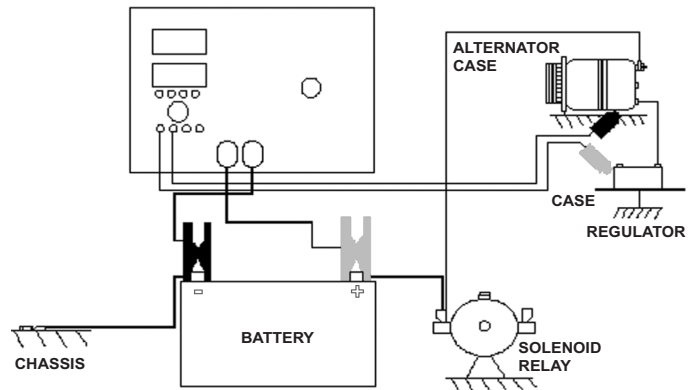

Figure 9
2. As shown below in Figure 9, connect the External Volt Leads from the voltage regulator case ground to the alternator case.